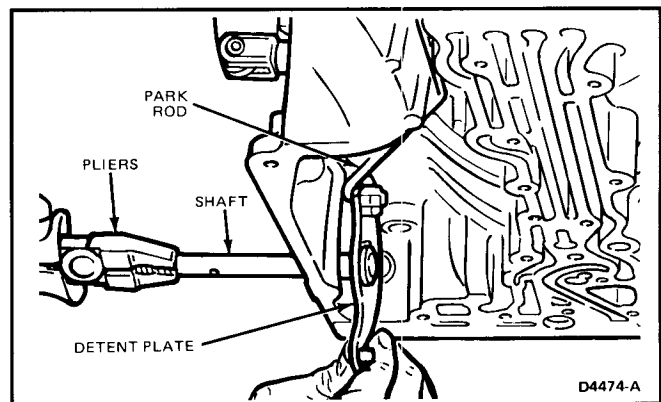

FIG. 18 Manual Lever—Installation
2. Connect the park rod to the detent plate as shown in Fig. 18.
4. Install the manual lever shaft through the case and into the detent plate bore (Fig. 18).